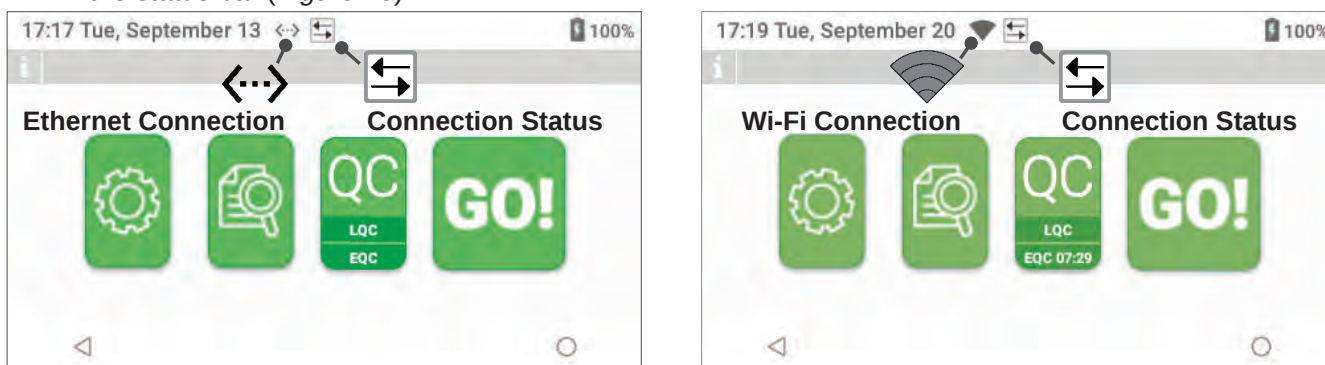

Figure 26: Network Connection Type and Status Icons
- If the instrument is connected to the network, the connection type (Ethernet or Wi-Fi) will be displayed in the status bar (Figure 26).